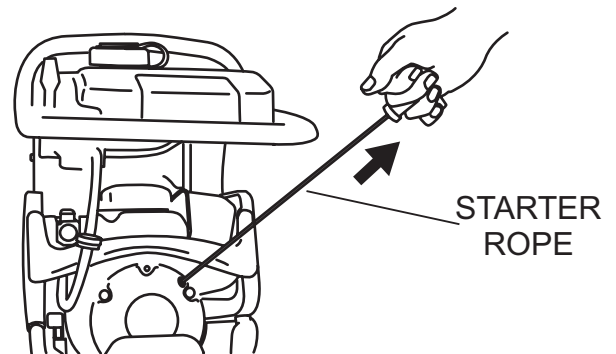

Figure 8. Recoil Starter
4. Grip the starter rope handle (Figure 8) and pull it until you feel a slight resistance. Then pull sharply and quickly. Return the handle to the starter case before releasing.